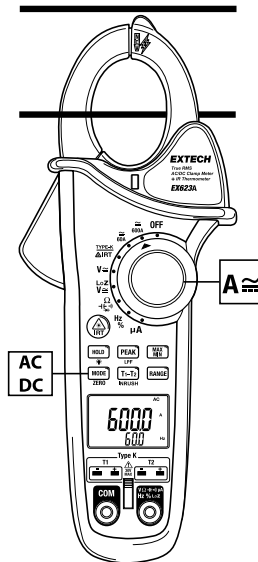

Figure 5.3 Current Clamp measurements. Clamp only one conductor, as shown.
3. Press the trigger to open jaw. Fully enclose only **one** conductor as shown in Figure 5.3.